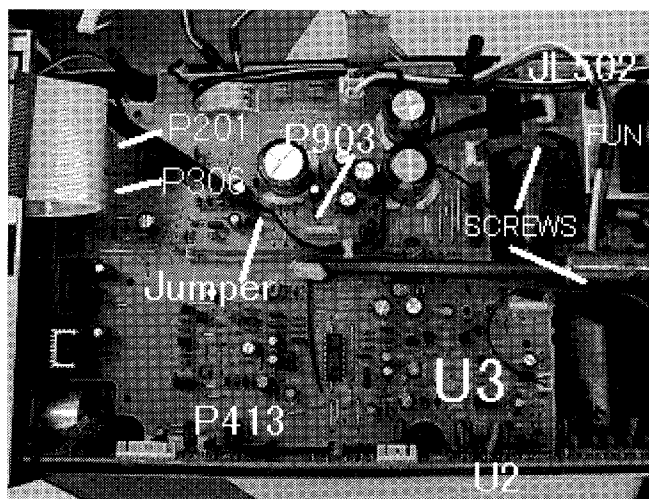

Fig. 5
- 2) As lifting Tuner Circuit pull out Flexible Cable Wire(P704) which is connected from Display Circuit, U6. Pull out four Connectors(P201, P306, P771, P705B) which are connected from U3, Power Supply Circuit and remove U3. (See Fig. 5.)
10. 1) Remove three Screws from U3, Power Supply Circuit. (See Fig. 5.)